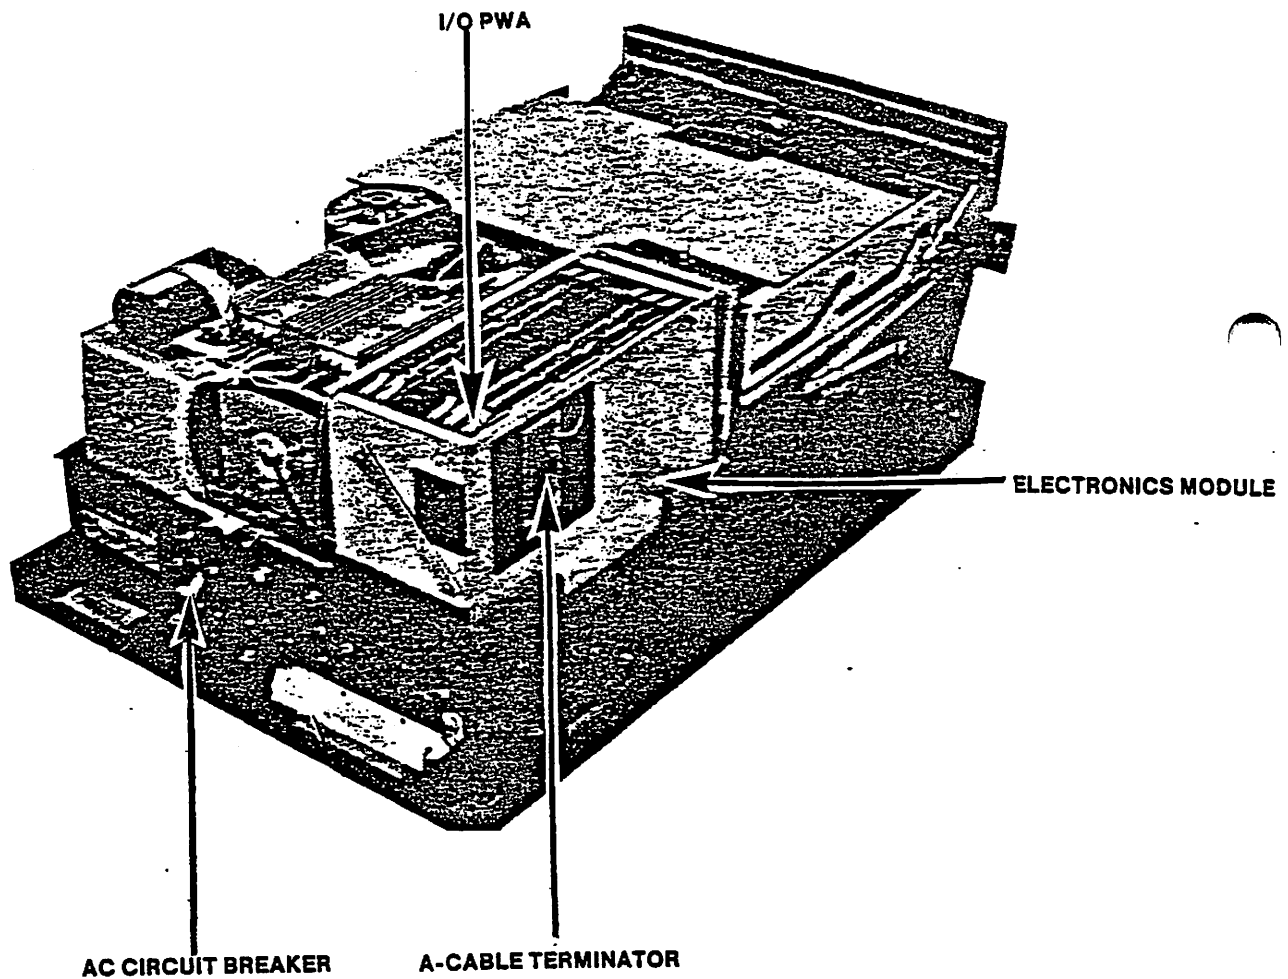

FIGURE 1 ELECTRONICS MODULE/A-CABLE TERMINATOR LOCATIONS
- B. Turn AC power off using AC circuit breaker shown in Figure 1.
- * E. Refer to Figure 1. Remove the A-Cable Terminator, CDC CMD PCB #75886100 (WLI 726-5790), from the I/O J2 slot of the I/O PWA in the electronics module.